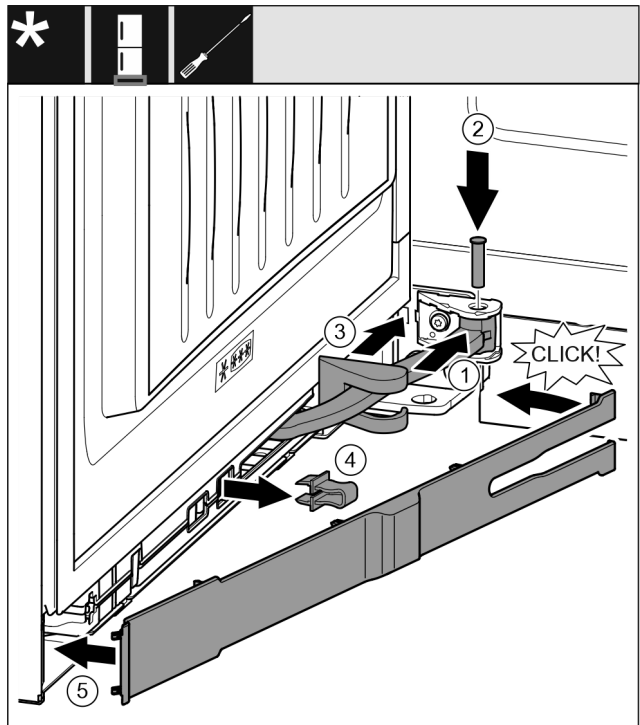

Fig. 50
- ▶ Turn the joint *Fig. 50 (1)* in the attachment.
- ▶ Use a screwdriver to insert the bolt *Fig. 50 (2)* into the attachment and the joint. Ensure that the latching cam is in the groove properly.
- ▶ Push the swap bearing block cover *Fig. 50 (3)* along the joint and use the attachment to fit it.
- ▶ Remove the safeguard *Fig. 50 (4)*.
- ▶ Place the trim *Fig. 50 (5)* on the handle side and swing in.